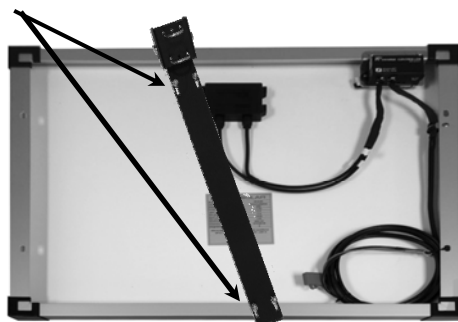

Figure 3A
6. Lay the Mounting Arm across the Solar Panel with the Clamp Plates down. Position the Mounting Arm at an angle so the Clamp Plates slide under the lip of the Solar Panel (Figure 3A)